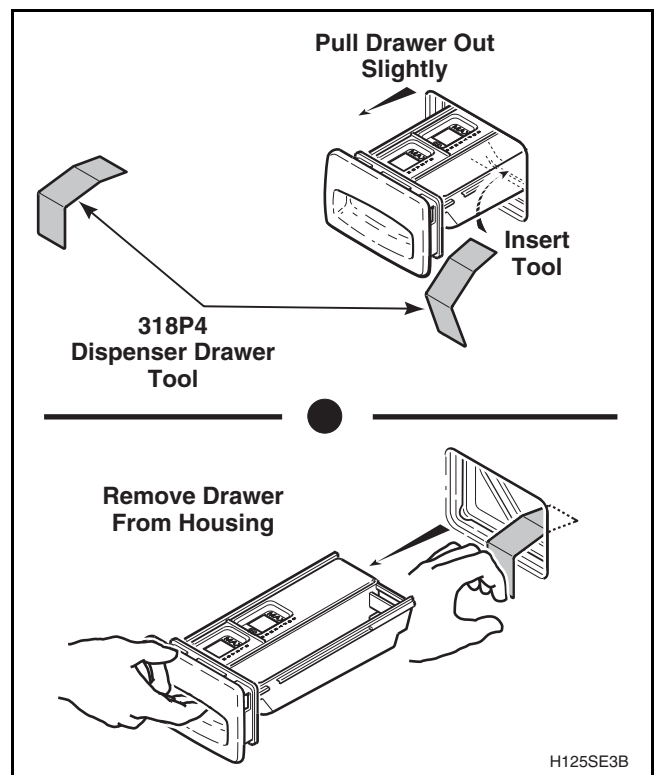

Figure 26
- b. Using the special tool, No. 318P4, remove dispenser drawer. Refer to *Figure 26*.